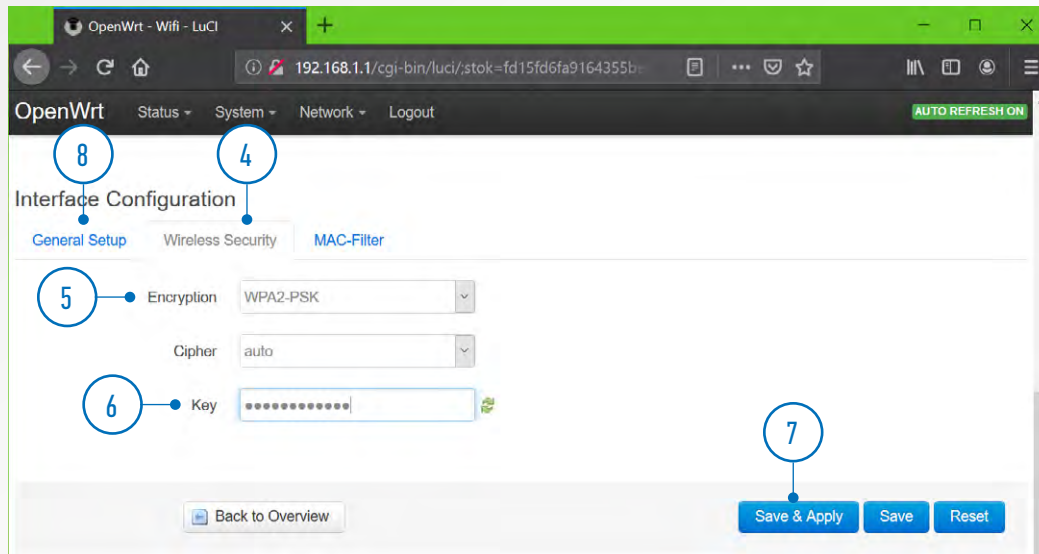

FIGURE 7 CHANGING WI-FI PASSWORD OF A1560
4. At the bottom of the page, find the **Wireless Security** tab (Fig.7 Pos.4) and switch to it
5. Set **Encryption** (Fig.7 Pos.5) to **WPA2-PSK**
6. Enter the desired Wi-Fi network **Key** (Fig.7 Pos.6)
7. Click **Save & Apply** button (Fig.7 Pos.7)
8. If you wish to change the Wi-Fi access point name, find and edit it in the **ESSID** field of the **General Setup** tab (Fig.7 Pos.8). Do not forget to click **Save & Apply** after doing so.